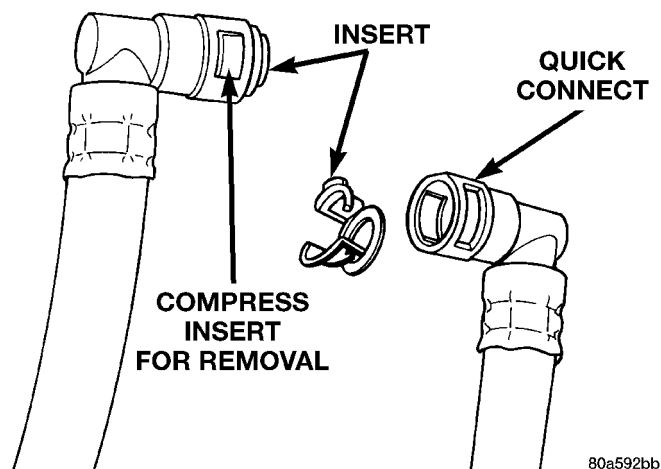

Fig. 36 Heater Hose Quick Connect
- (1) Drain engine cooling system. Refer to Group 7, Cooling System.
- (2) Remove clamp at end of heater hose to be removed.
- (3) RHD vehicles, heater hoses at the heater core connection have quick connects (Fig. 36). The quick connect consist of two pieces; a quick connect and insert. The quick connect is removed by compressing the insert with a pliers, pull quick connect free of insert/nipple. Carefully compressed insert pulling the quick connect from connector nipple. The insert will remain on the connector nipple as the quick connect is removed.
- (4) Remove the heater hose clamp from the heater hose at the block and remove hose.